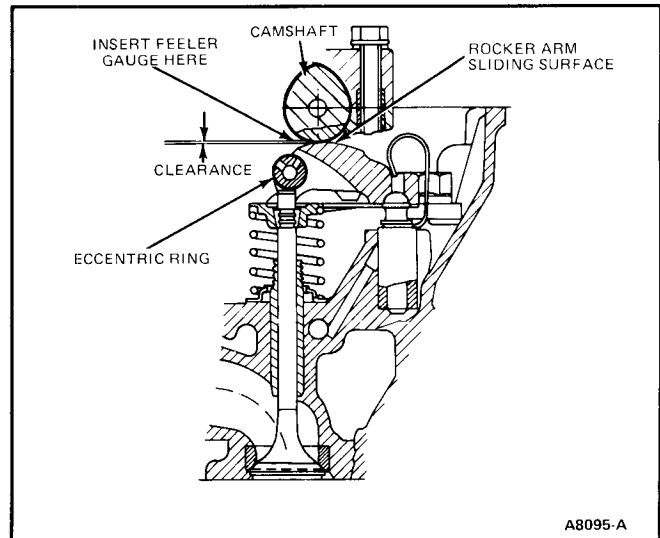

FIG. 7 Valve—Cross-Sectional View
2. Position camshaft so that base circle of the lobe of the valve to be adjusted is facing the rocker arm (Fig. 7).